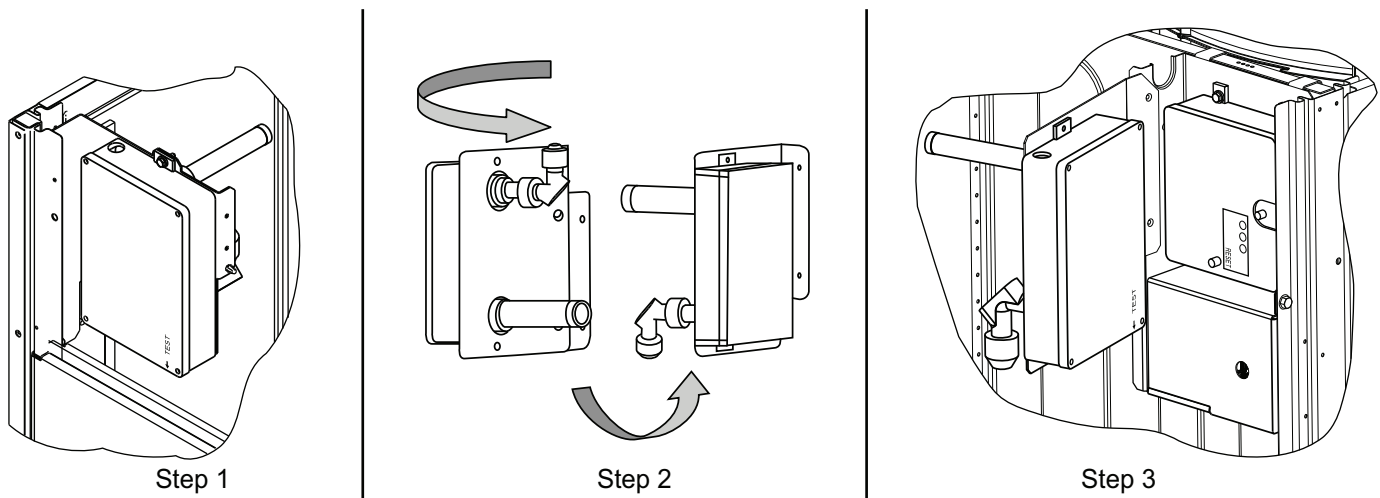

Fig. 74 — Completing Installation of Return Air Smoke Sensor
1. Unscrew the 2 screws holding the return-air smoke detector assembly. See Fig. 74, Step 1. Save the screws.
2. Turn the assembly 90 degrees and then rotate end to end. Make sure that the elbow fitting is pointing down. See Fig. 74, Step 2.
3. Screw the sensor and detector plate into its operating position using screws from Step 1. See Fig. 74, Step 3.